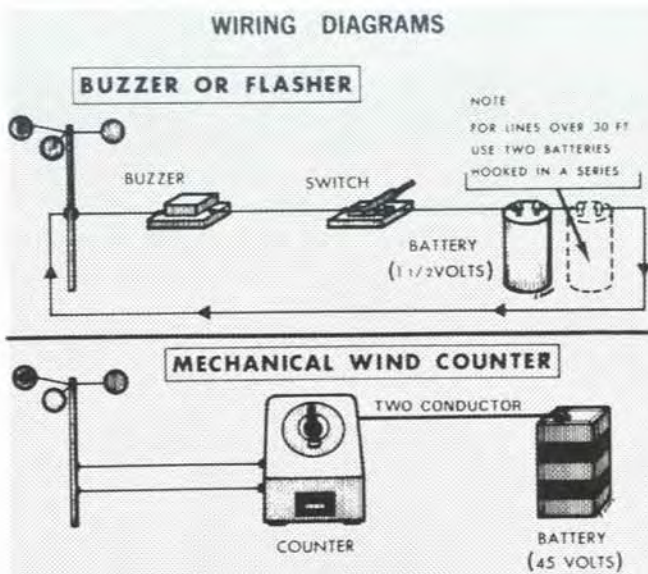

Figure 31.12—Wiring diagrams: upper, for buzzer or flasher; lower, for mechanical wind counter.
- a. Replace the batteries. Make certain that they are connected in series rather than parallel (fig. 31.12).
7. Test the wind counter by attaching a contacting anemometer (fig. 31.12, lower diagram). Spin the cups by hand and observe if the counter advances each time the anemometer closes a contact. The counter can also be tested by touching the counter leads together at 1- to 1½ second intervals.